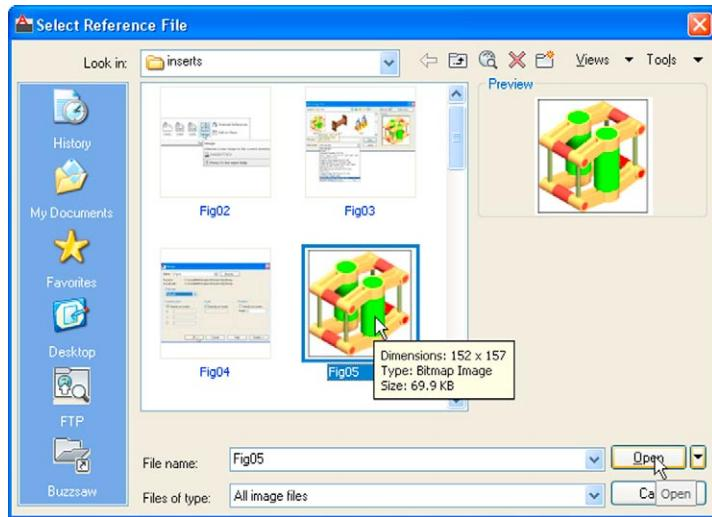

Fig. 10.9 The **Select Reference File** dialog
1. Click **Raster Image Reference...** from the **Insert** drop-down menu (Fig. 10.8). The **Select Reference File** dialog appears (Fig. 10.9). Click the file name of the image to be inserted, **Fig05** (a bitmap **\*.bmp**). A preview of the bitmap appears.